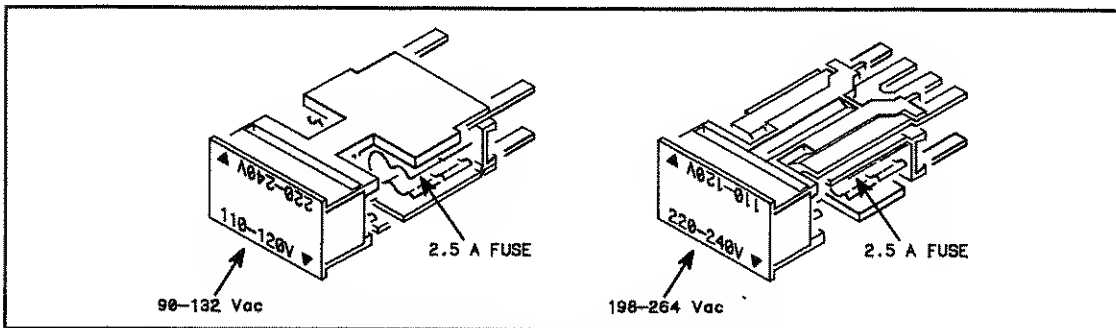

Figure 2-2. Checking for the Correct Fuse
If you find it necessary to check or change fuses, remove the module and look at each fuse for its amperage and voltage ratings. Refer to figure 2-2, Checking for the Correct Fuse and Table 2-1, Fuse Rating and Part Numbers.
2. Check that the fuse rating is appropriate for the line voltage being used. (see figure 2-2). Fuse ratings are printed on the rear panel.
4. On the rear panel, press the LINE switch to ON (1).